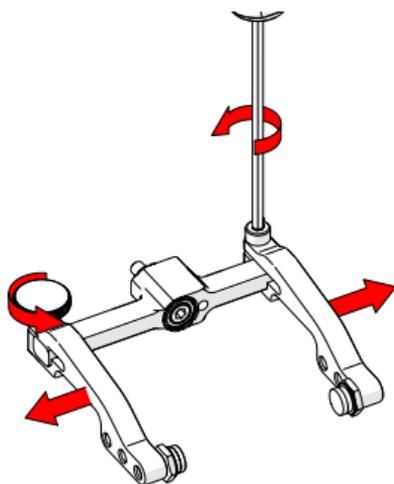

Fig. 81 - Remove probe holder arms
3. Loosen the probe holder arm adjustment knob and the arm clamp screw. Slide the probe holder arms off the yoke (Fig. 81).